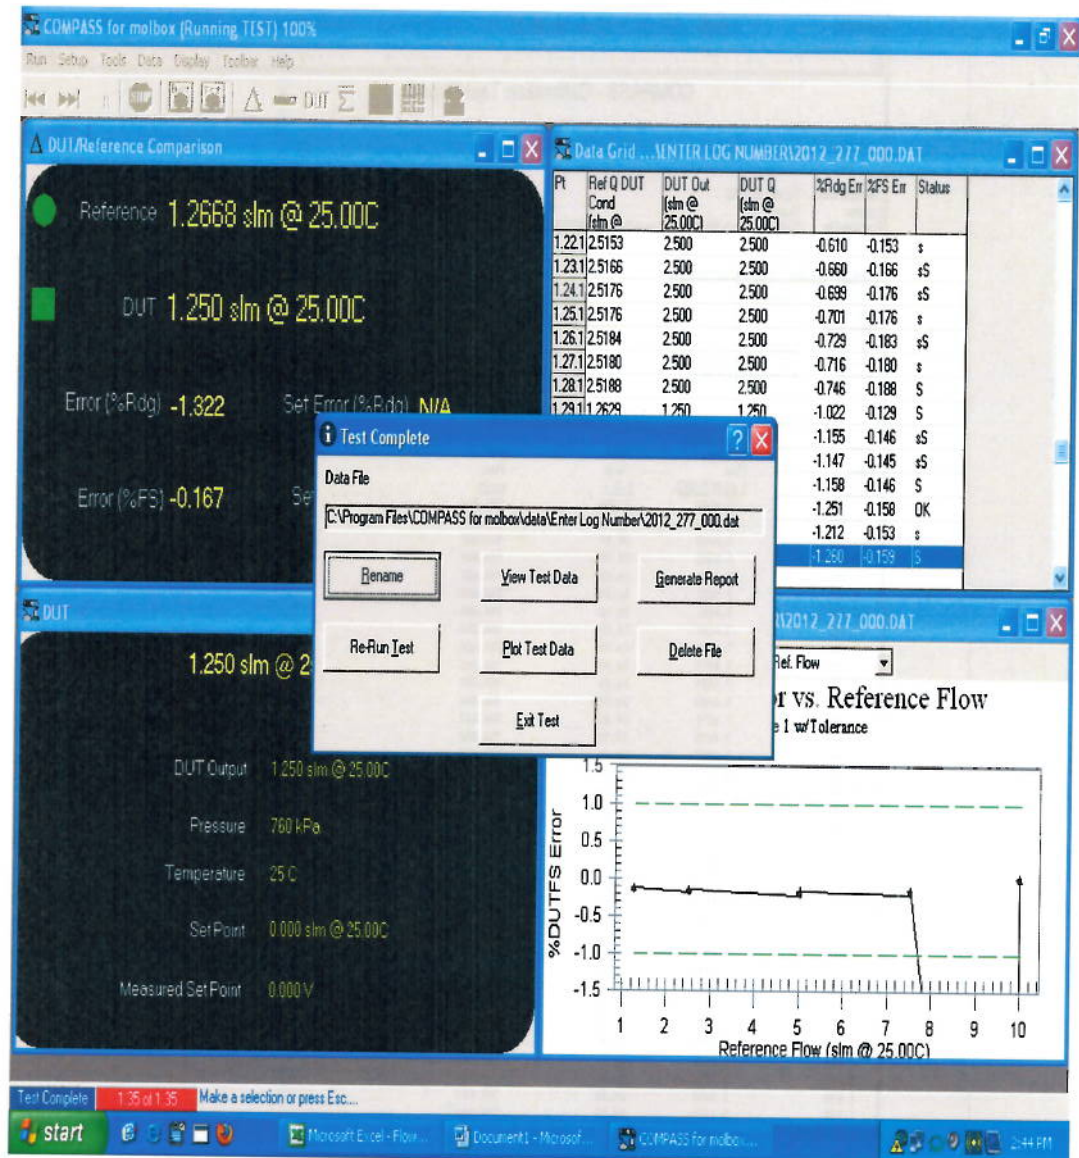

Figure 18
- 12.3.19 The "Test Complete" window allows you to generate a "COMPASS – Calibration Test Report". Click on the "Generate Report" button. See Figure 18.